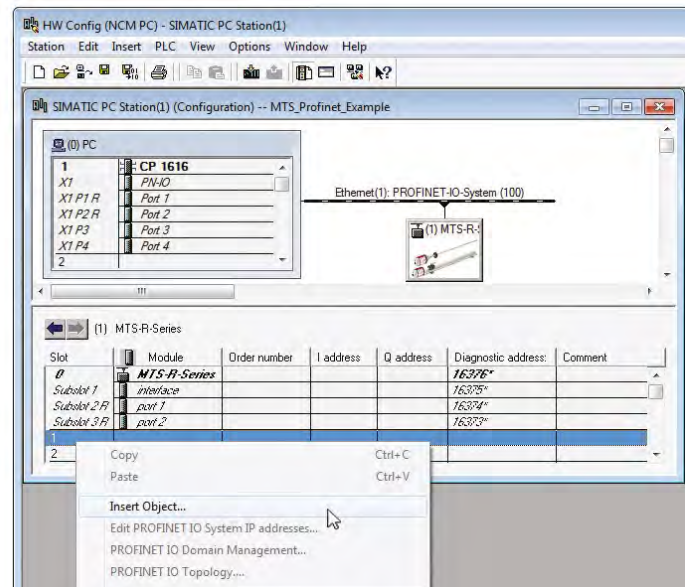

Fig. 68: Insert object (source: Siemens)
2. Add the number of magnets specified in your order as described below: – Right-click Slot 1 (Fig. 68)
- Insert Object (Fig. 68)